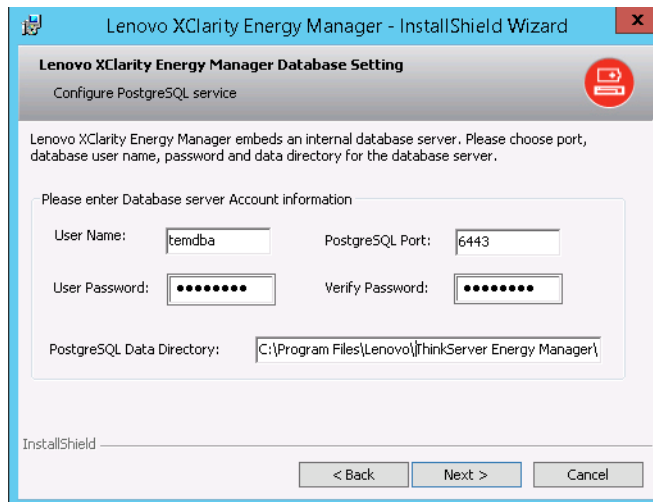

Figure 7-33 Embedded database installation
10. Energy Manager has an embedded database server. As seen in Figure 7-33, you can set the database attributes including username, an open/unused port, password and installation path. Once set, click **Next**.